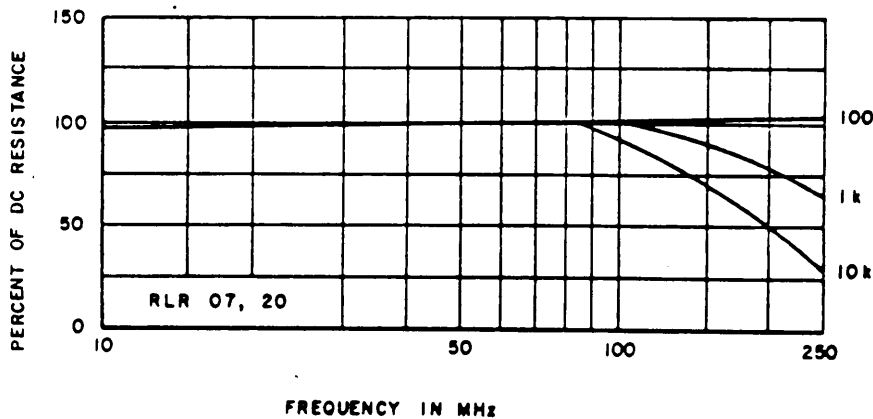

FIGURE 305-2. Response curve.
2.9 Frequency characteristics. These resistors are virtually noninductive. A typical response curve is illustrated on figure 305-2.